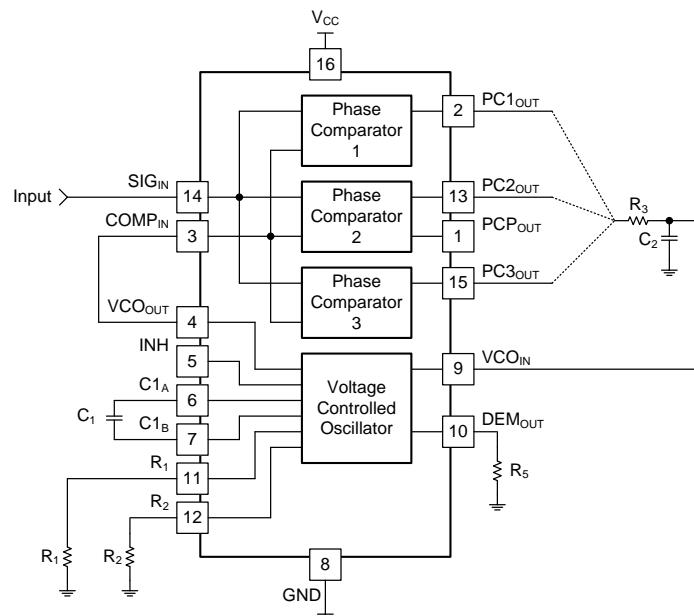

Figure 9. SN74LV4046A Digital Clock Signal Phase Comparison Application
- Phase comparator 3 (PC3) is an positive Edge-Triggered RS Flip-Flop. This is a positive edge-triggered sequential phase detector using an RS-type flip-flop. When the PLL is using this comparator, the loop is controlled by positive signal transitions and the duty factors of SIG_{IN} and $COMP_{IN}$ are not important. The average output from PC3, fed to the VCO through the lowpass filter and seen at the demodulator at pin 10 (V_{DEMOUT}), is the resultant of the phase differences of SIG_{IN} and $COMP_{IN}$ as shown in Figure 9.